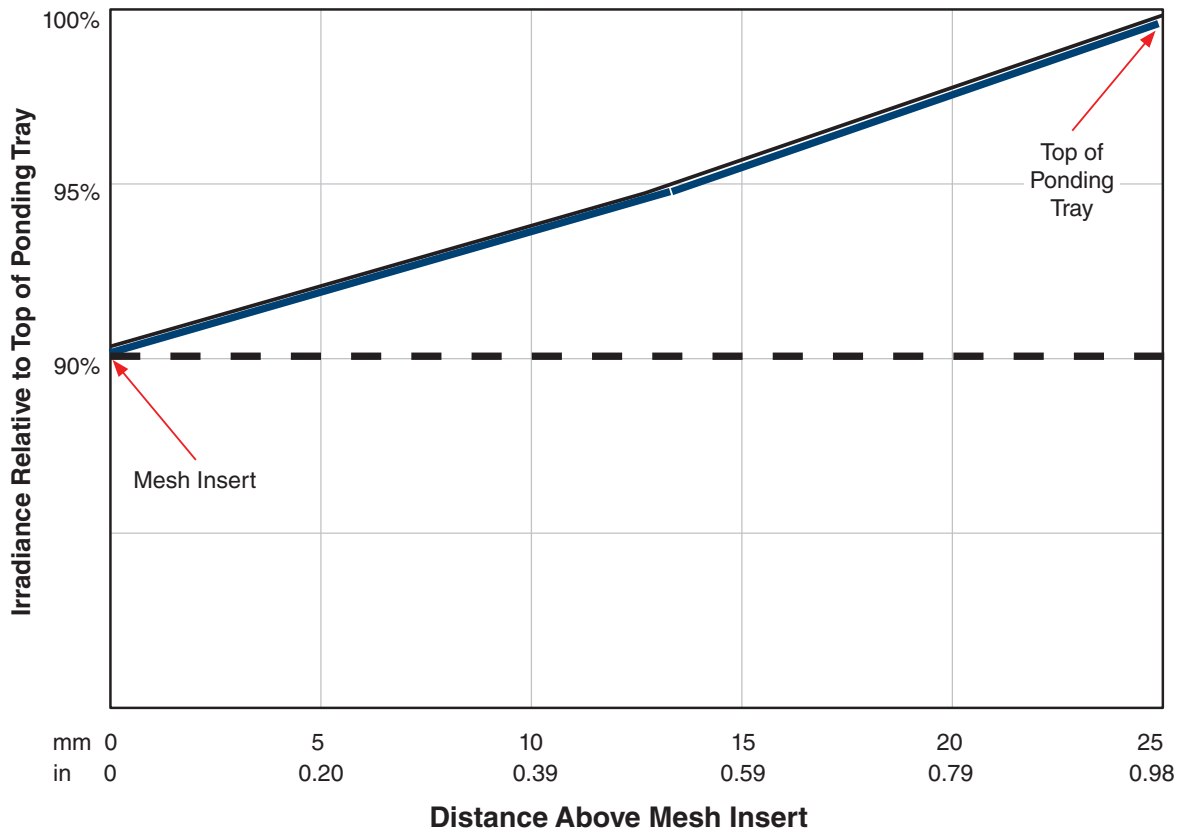

Figure 12.1i: Distance above mesh insert vs. irradiance for the Xe-1-WE.
- The irradiance level for shorter specimens is less by the amount shown in Figure 12.1i.